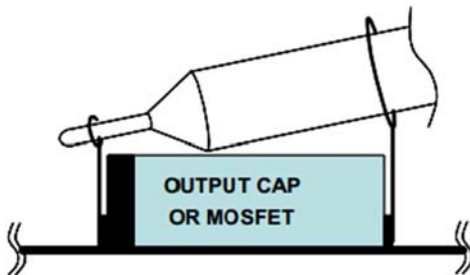

FIGURE 3. OSCILLOSCOPE PROBE SET-UP
4. Use oscilloscope to observe output ripple voltage and phase node ringing. For accurate measurement, please refer to Figure 3 for proper set-up.